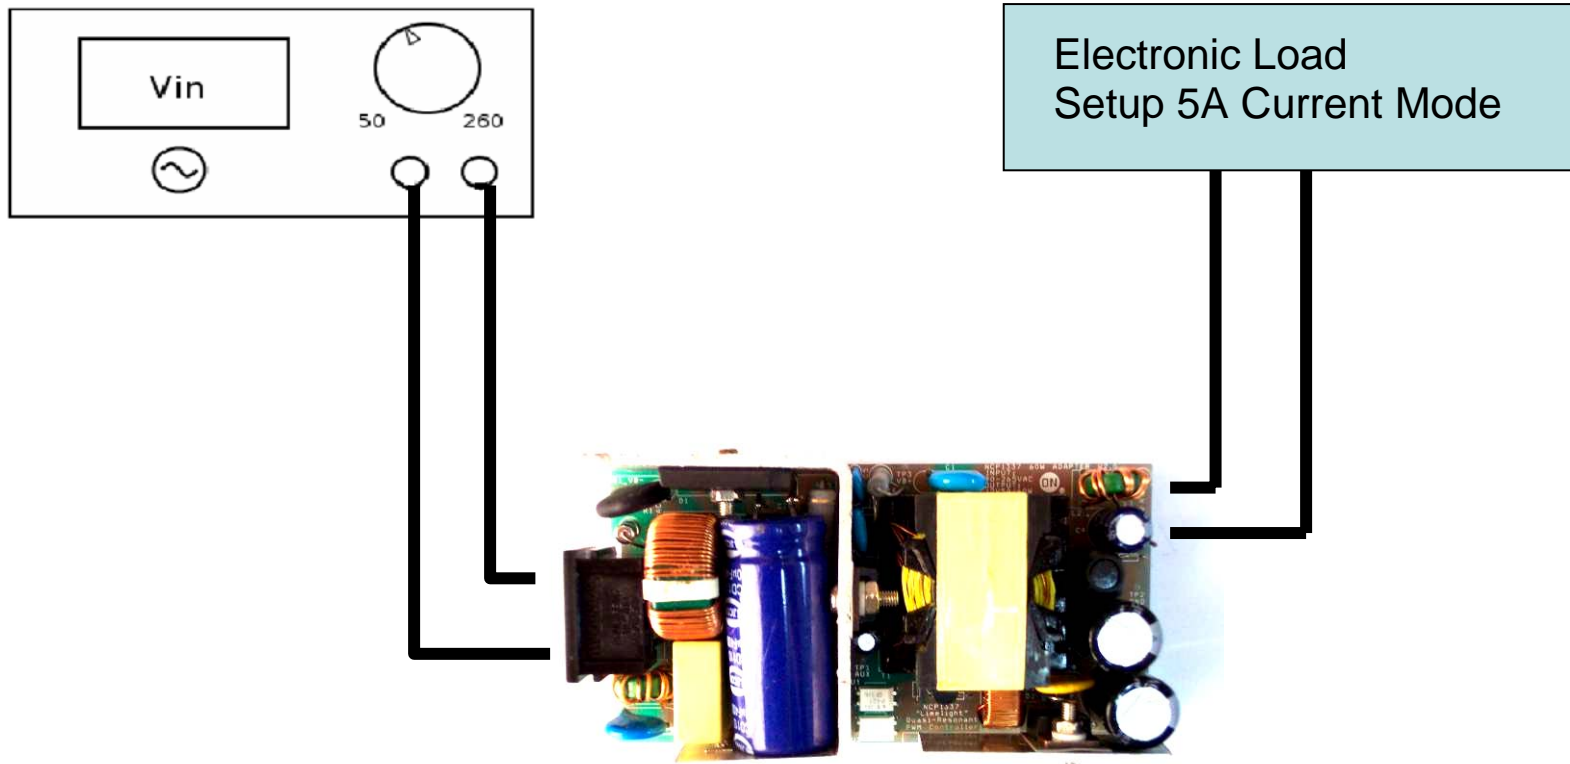

Figure 1 - Test Setup
1. Connect the test setup as showed above in Figure 1.